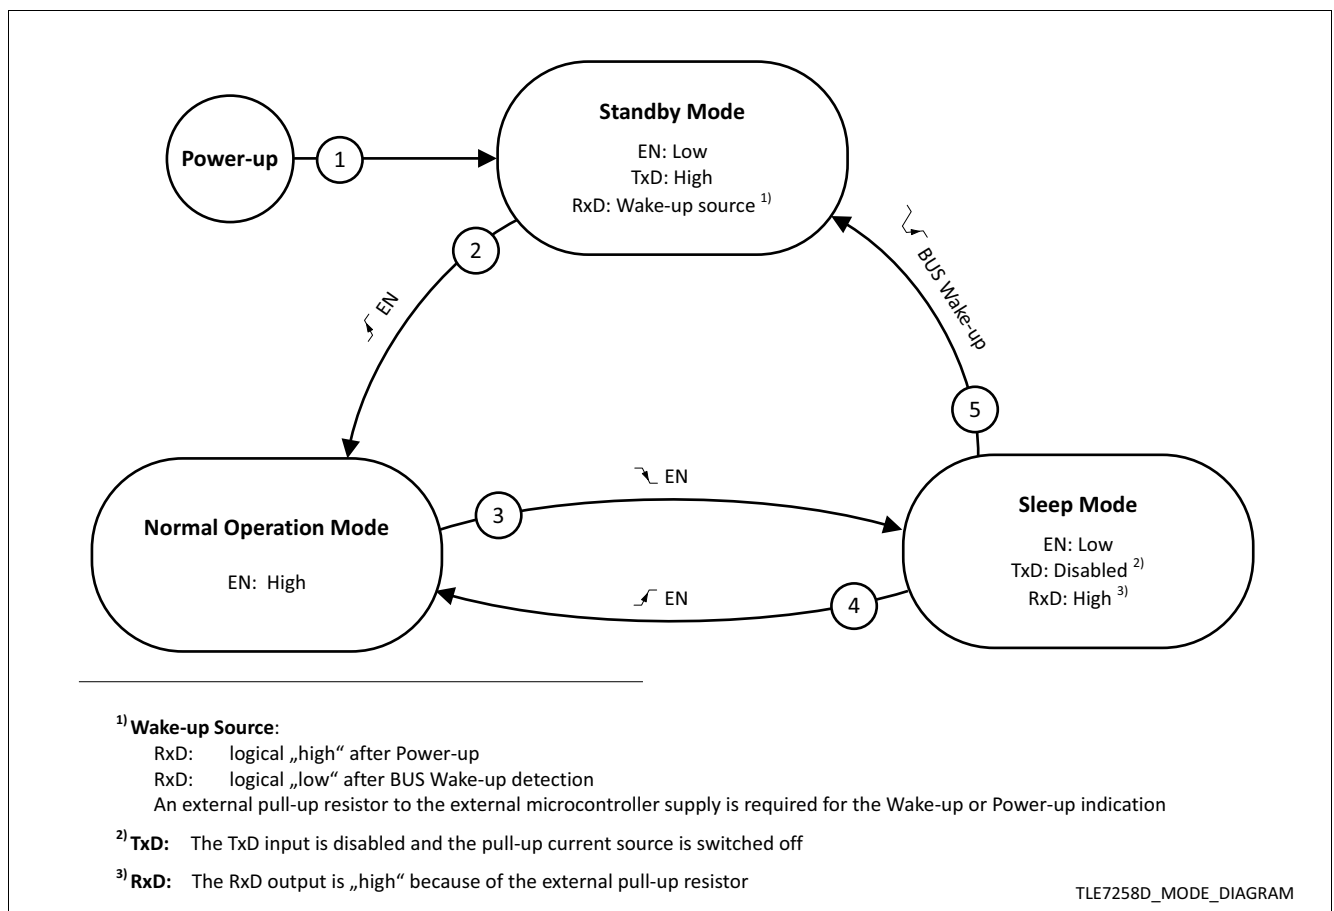
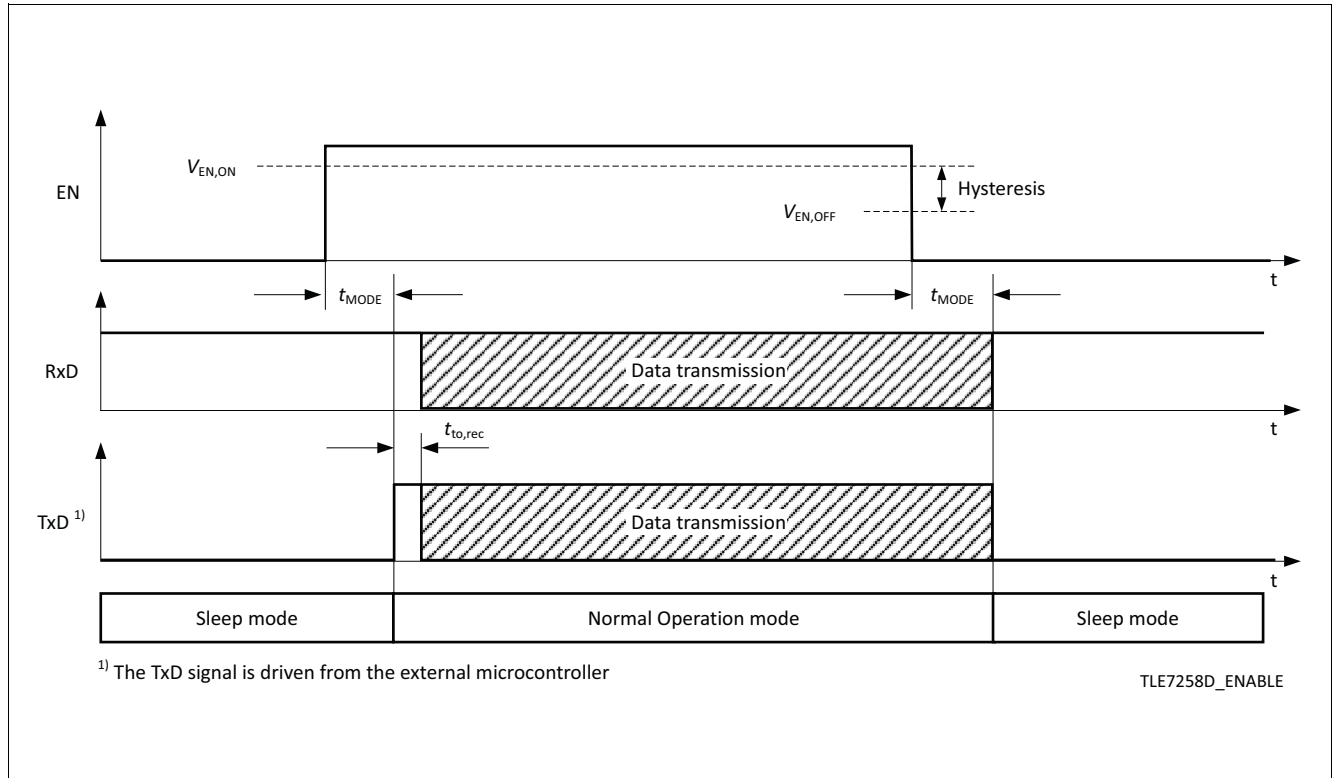

Figure 4 Operation mode state diagram
Figure 9 Entering Normal Operation mode from Sleep mode
The TLE7258D has 3 major operation modes (see Figure 4):
Normal Operation mode can be entered from either Sleep mode (see Figure 9) or from Standby mode (see Figure 5), by setting the EN input to logical "high". From Normal Operation mode the TLE7258D can only enter Sleep mode, it is not possible to enter Standby mode directly (see Figure 4).
- The RxD output indicates either a wake-up event or a power-up event (see Figure 4 and Table 1).
To switch the TLE7258D from Normal Operation mode to Sleep mode, the EN input has to be set to "low". Conversely a logical "high" signal on the EN input sets the device directly back to Normal Operation mode (see Figure 4). The TLE7258D can only enter Sleep mode from Normal Operation mode.
The EN input is used for operation mode control of the TLE7258D. By setting the EN input logical “high” for the time t_{MODE} while being Sleep or Standby mode, a transition to Normal Operation mode will be triggered (see Figure 9). The EN input has an integrated pull-down resistor to ensure the device remains in Sleep or Standby mode even if the EN pin is left open. The EN input has an integrated hysteresis.